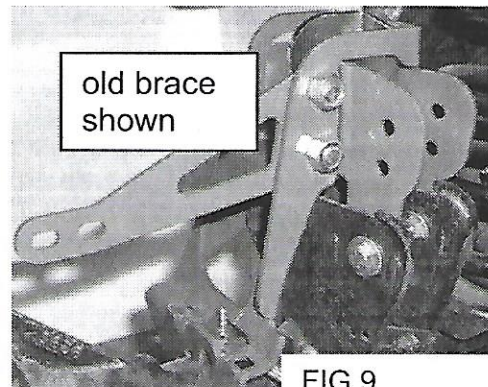

FIG 9
**Step 7: Install Tower Brace.** The remaining bracket in the kit is used only with Nth° Suspensions or the Nth14000: ShortArm Handling Improvement Kit – if your rear upper control arms are still attached to the original axle brackets, you will not be able to use this bracket. Position the bracket on the front of the main bracket and loose-assemble the brace to the tower with the two 1/2"x1.0"L bolts, nuts and washers. Add a 3/8" bolt, two washers, and locknut to the hole that lines up with the inboard side of the stock LRUCA tower, but again only 'loose assemble' them for now as shown in **figure 9** (shows old brace version).